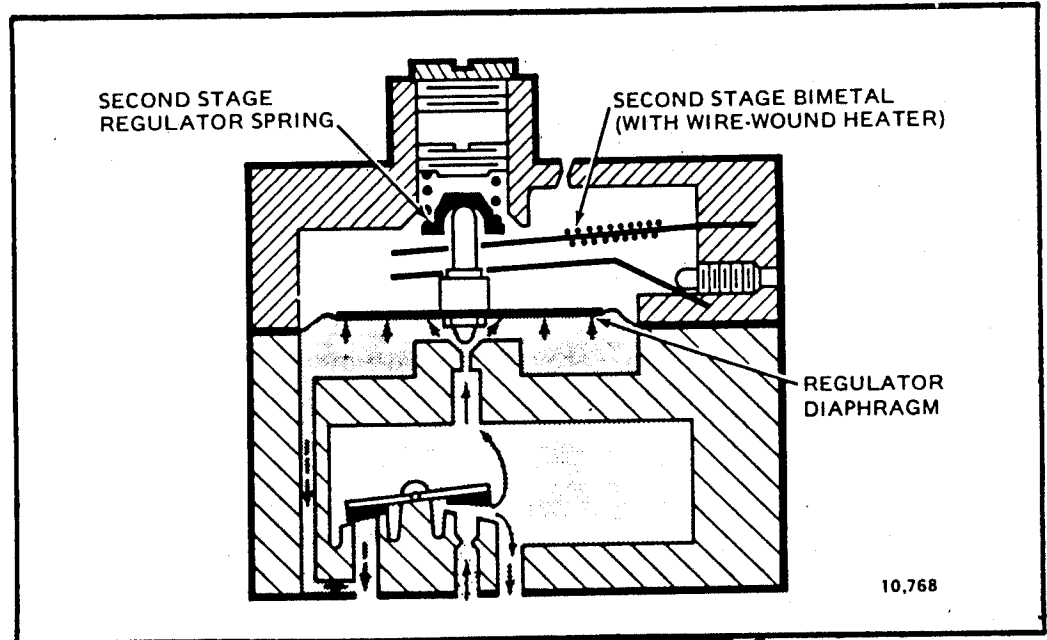

Fig. 46—Second-stage ON position.
Fig. 46 shows the operator/regulator in the second stage ON position. Before the second stage is activated, two things must happen: (1) the second stage of the thermostat must close and provide current to the second stage bimetal heater, and (2) the heater must cause the bimetal to warp down. (This usually takes approximately 60 seconds.) Once the heater has warped the bimetal down, the second stage regulator spring puts more tension on the regulator diaphragm and pushes it down. Less working gas